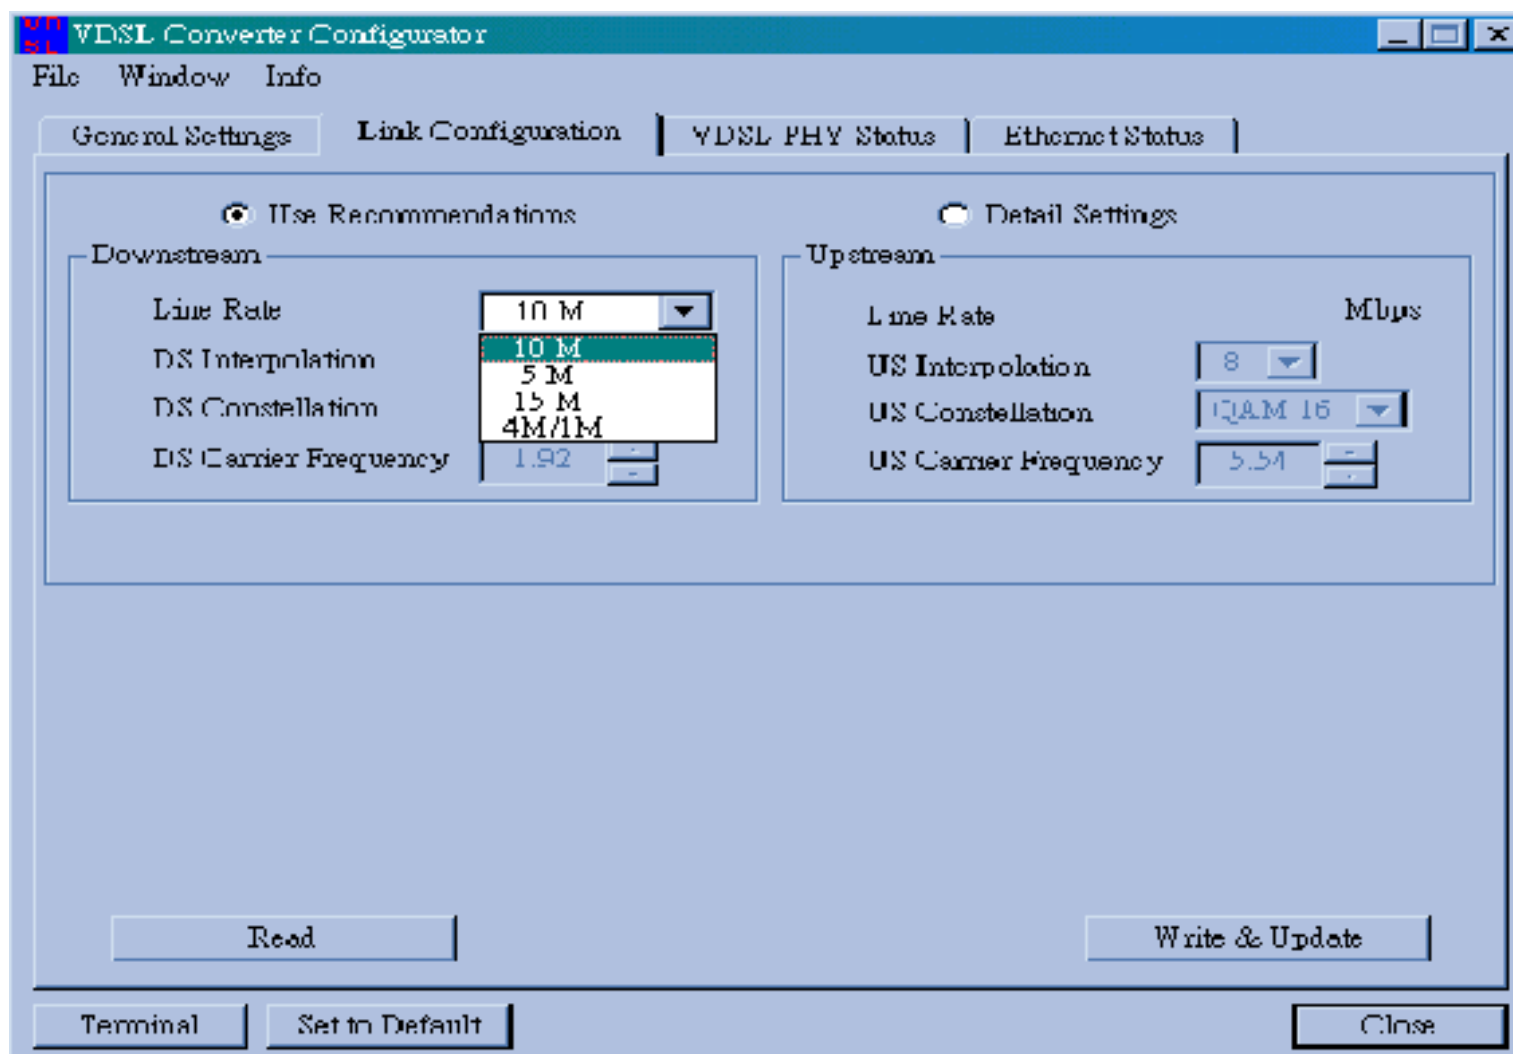

Figure 1.3
9. Click Link Configuration to enter **Figure 1.3**